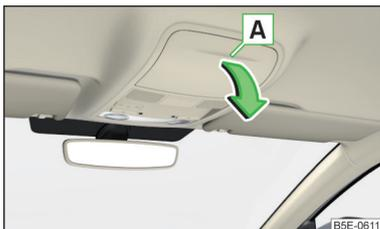

Fig. 88
- › To **open**, press on the outer edge of the glasses compartment in area **A**. The compartment folds in the direction of the arrow » Fig. 88.